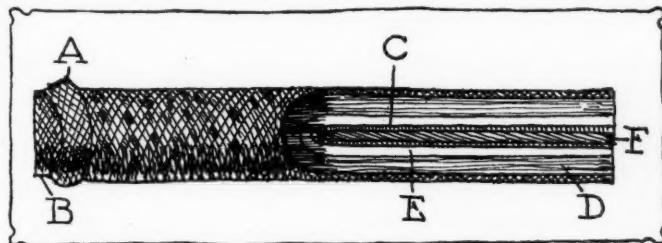

Fig. 2—Section through a piece of Packard cable, showing the layers of close-woven braiding and the coverings of Para rubber throughout
**Packard Cable**—Fig. 2 shows the construction of the Packard cable, manufactured by the Packard Electric Co., Warren, O. A shows the outside braid, composed of glazed thread specially selected for its strength, toughness and durability. It is wound multiple end to give perfect insulation. The color is seal brown with double red striping. The cable is impregnated with a permanently flexible enamel which is grease, heat and water-proof. The inside braid is shown at B. It is composed of glazed thread specially selected for its strength. This braid is also wound multiple end and the color is seal brown with double red striping. The first covering of Para rubber is shown at C. D indicates the third covering of Para rubber properly compounded to give maximum dielectric strength and flexibility, the color being black. The second covering, E, also of Para rubber, is scientifically compounded to perfectly vulcanize it to the first and third coverings. The core, F, is composed of forty-one strands of No. 30 soft-drawn tinned copper wire laid in reverse layers, making it flexible and round in cross-section.